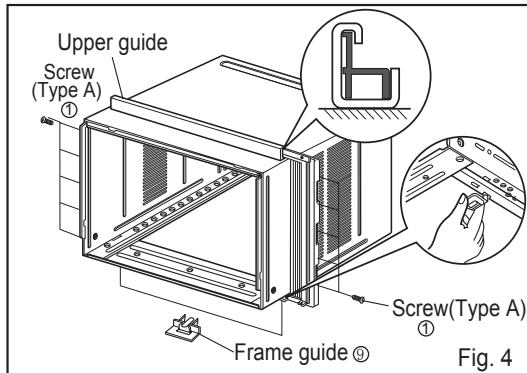

Fig. 4
4. Insert the Frame guides into the bottom of the cabinet. (Fig.4)
5. Insert the Frame Curtain into the Upper Guide and Frame Guides. (Fig.4)
6. Fasten the curtains to the unit with 8 Type A screws. (Fig.4)